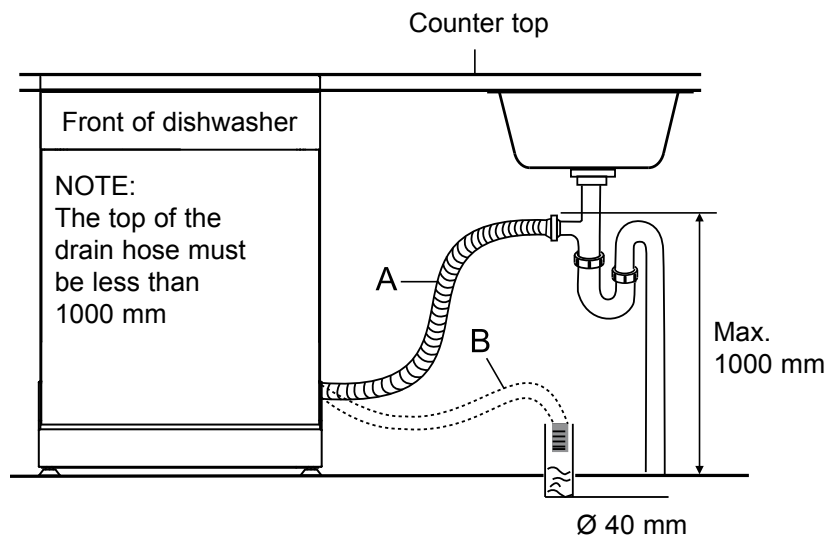

Figure 10
5. If there is no air gap, make sure to hang the middle of the drain hose well above the sink cabinet base to prevent backflow (see Figure 10 on the next page).